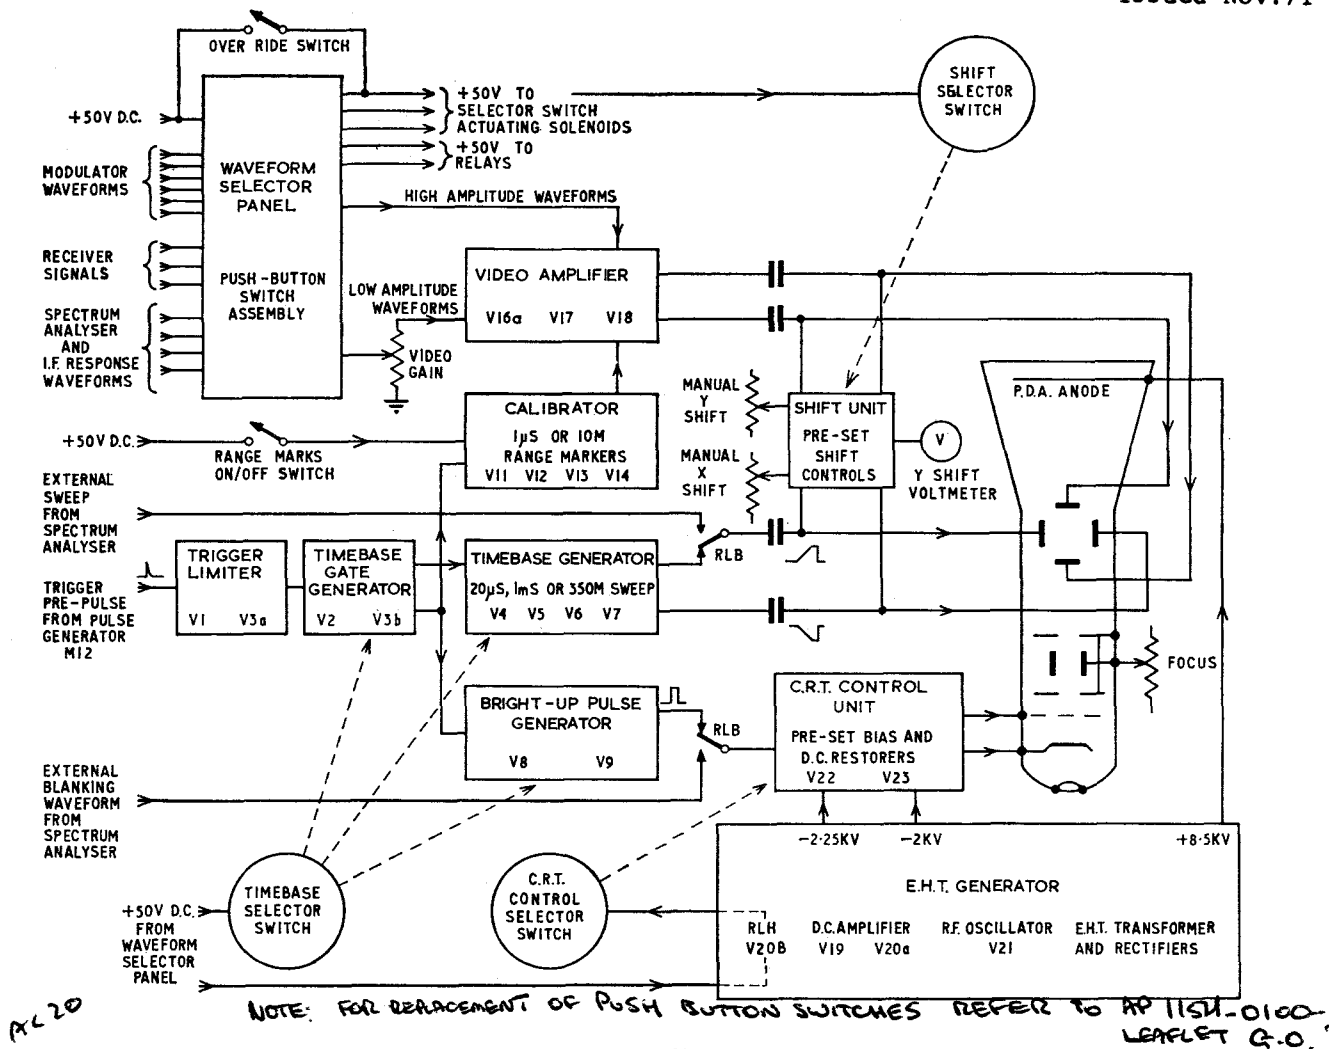

Fig. 2. Panel monitor MI3 : block diagram
6. A block diagram of the waveform monitor is shown in *fig. 2*. Each monitoring point in the transmitter is connected by coaxial cable to one of a series of multi-contact push-button switches